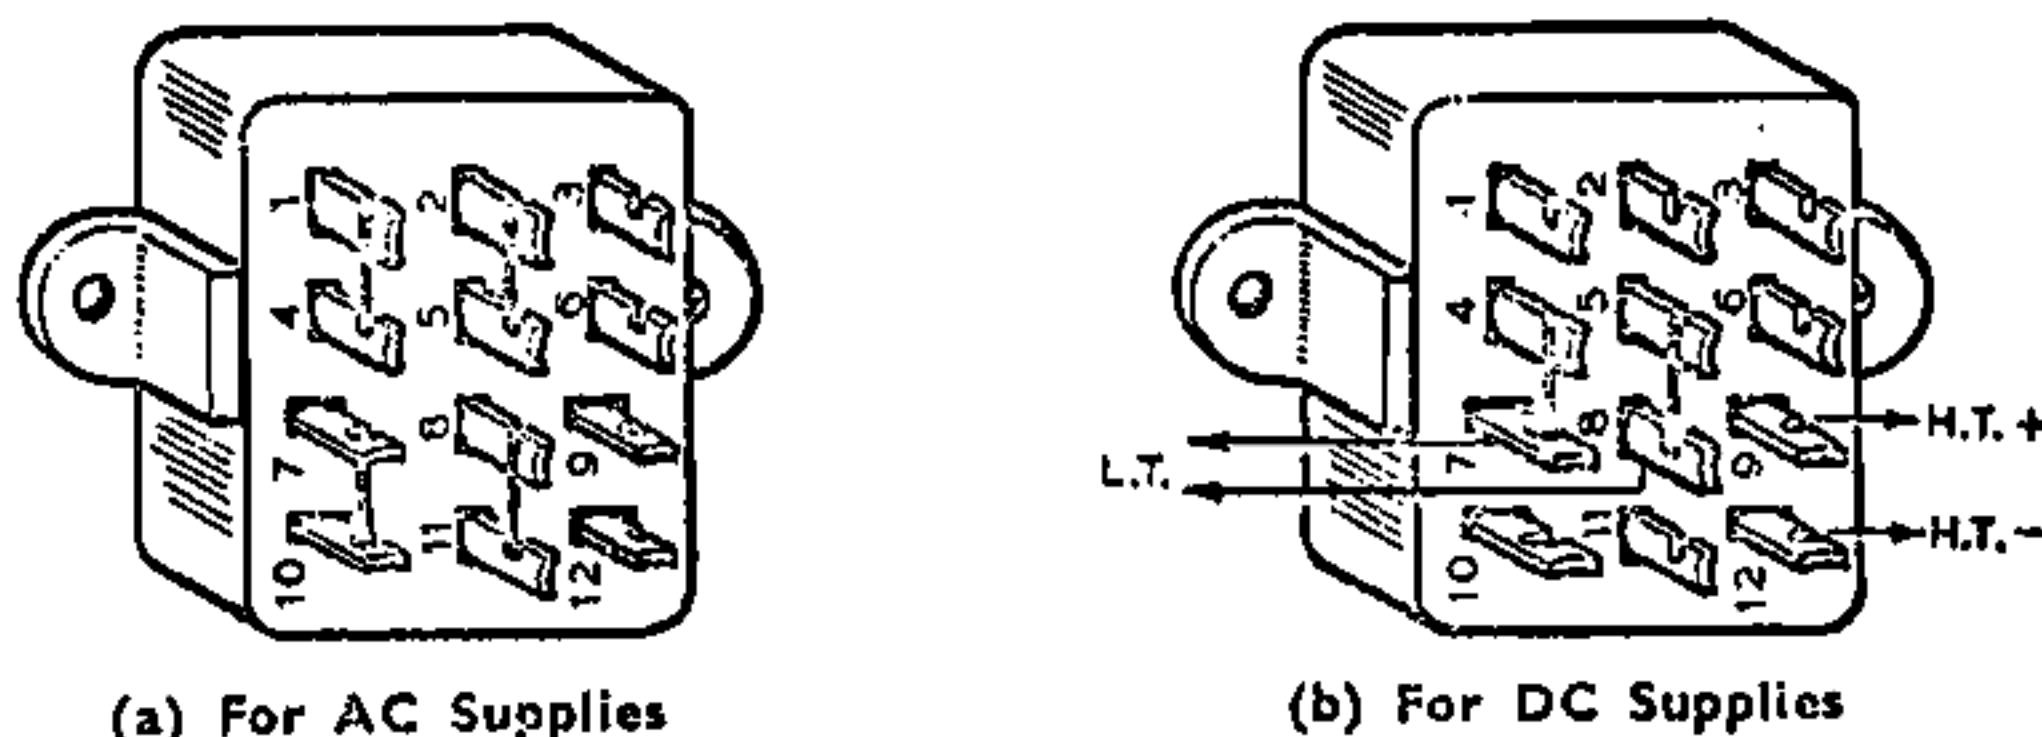

Fig. 5 Rear View of External HT and LT Socket (Showing connections)
- (3) Replace the cover plate.
(4) Ensure that the External HT and LT Socket (27) is correctly strapped for AC operation, as shown in Fig. 5(a), and makes good contact with the plug.
(1) Make certain that the supply to be used conforms with the DC power requirements listed on page 2 of this Handbook.
(2) Remove the four straps on the External HT and LT Socket (27). Ensure that the DC supply leads are not live and then connect them to the socket as shown in Fig. 5(b).
(3) Replace the socket and ensure that it makes good contact with the plug.